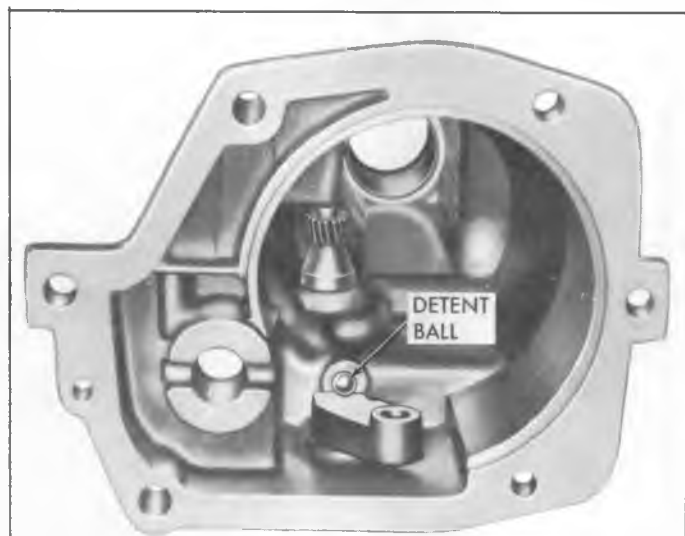

Fig. 11B—Installing Reverse Shifter Shaft and Detent Ball
5. Place detent ball on spring (fig. 11B) and, holding ball down with your thumb or a suitable tool push the shifter shaft back in away from case until it is directly over the ball and turn until the ball drops into detent on the shaft detent plate.